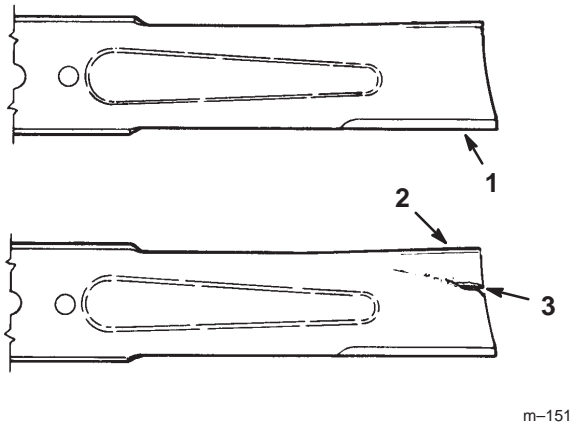

Figure 41
1. Inspect the cutting edges (Fig 41). If the edges are not sharp or have nicks, remove and sharpen the blades. Refer to Sharpening the Blades on page 33.
- Inspect the blades, especially the curved area (Fig. 41). If you notice any damage, wear, or a slot forming in this area (item 3 in Fig. 41), immediately install a new blade.